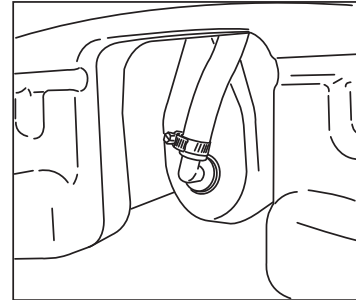

Figure 2.
2. Route the hose end in between the tank and base. Install the hose onto the barb on the bottom of the tank and secure with the supplied hose clamp. **See Figure 2.**